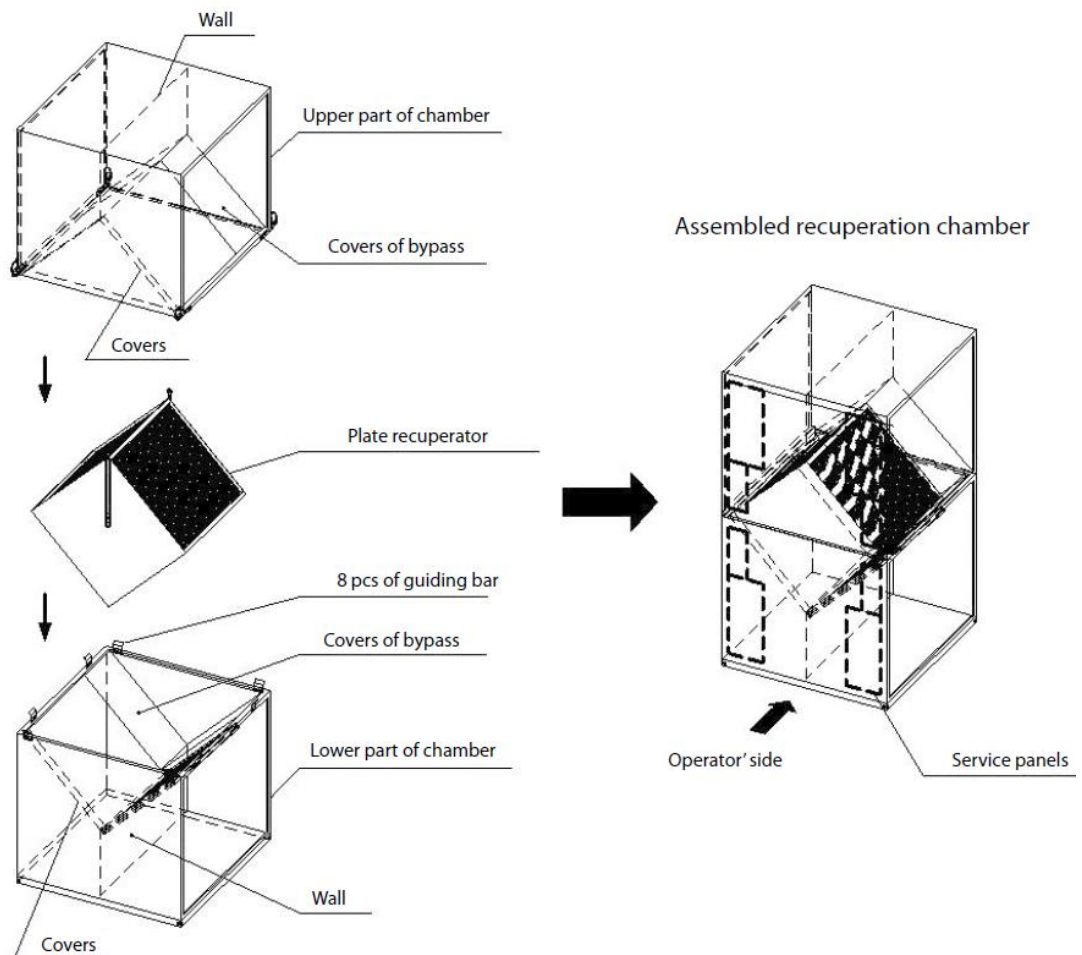

Figure 1 – Assembly diagram of split chamber
- PLACEZ LA PARTIE SUPÉRIEURE DE LA CHAMBRE SUR LA PARTIE INFÉRIEURE, LA POSITION EXACTE EST ASSURÉE PAR LES BARRES DE GUIDAGE, VOIR Fig. 1